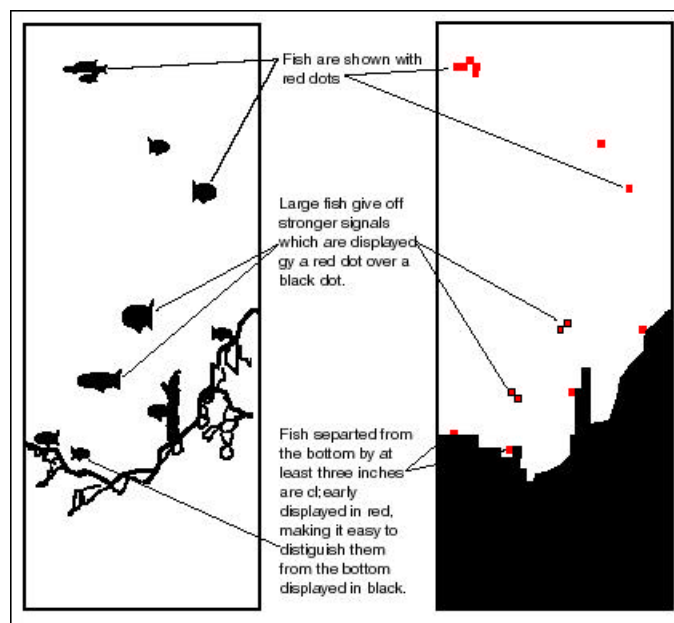

FIGURE 2
1. **Objects at least three inches off the bottom are displayed in red.** The bottom and structure attached to the bottom are displayed in black. The electronics in the LCR4-ID and LCR40-ID can separate the bottom from objects at least three inches off the bottom no matter what depth range you are viewing. This means that fish close to the bottom will be easily seen on the LCR (see Figure 2). These same fish would be missed on an ordinary display because they would just look like part of the bottom.